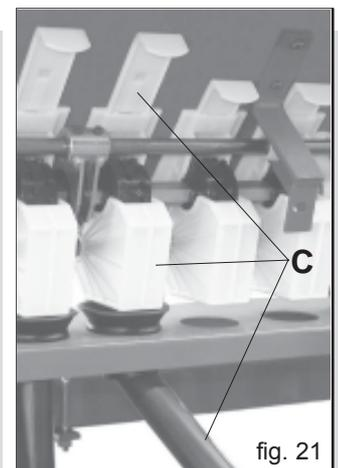

fig. 21
- release the screw (A) of the coulter's attachment;
- hook the springs (B) on the suitable attachments .
- make sure that only the blades of the distributors that have the telescoping tube (Fig. 21, C) are open; all the others must be closed.